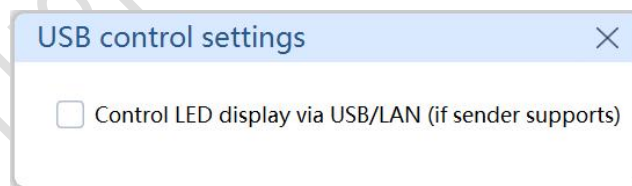

Fig.4-27 Control LED display via USB (if sender supports)
- 1) Click **Setting** to bring up a pop-up window for setting the sender control mode. If there is only 1 or no sender detected, you can only enable or disable the option **Control LED display via USB/LAN (if sender supports)**. See Figure 4-27.